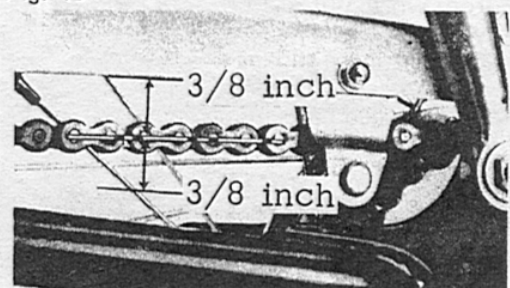

Fig. 46
3. Now turn the chain adjuster nuts clockwise to tighten the chain or counterclockwise to loosen it. Always turn chain adjusters an equal amount so that chain alignment is not disturbed. (Figure 46)